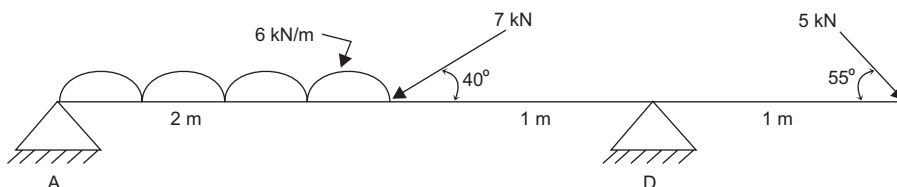

Fig. 5
2.24 Find the support reaction for a beam shown in fig. 5.